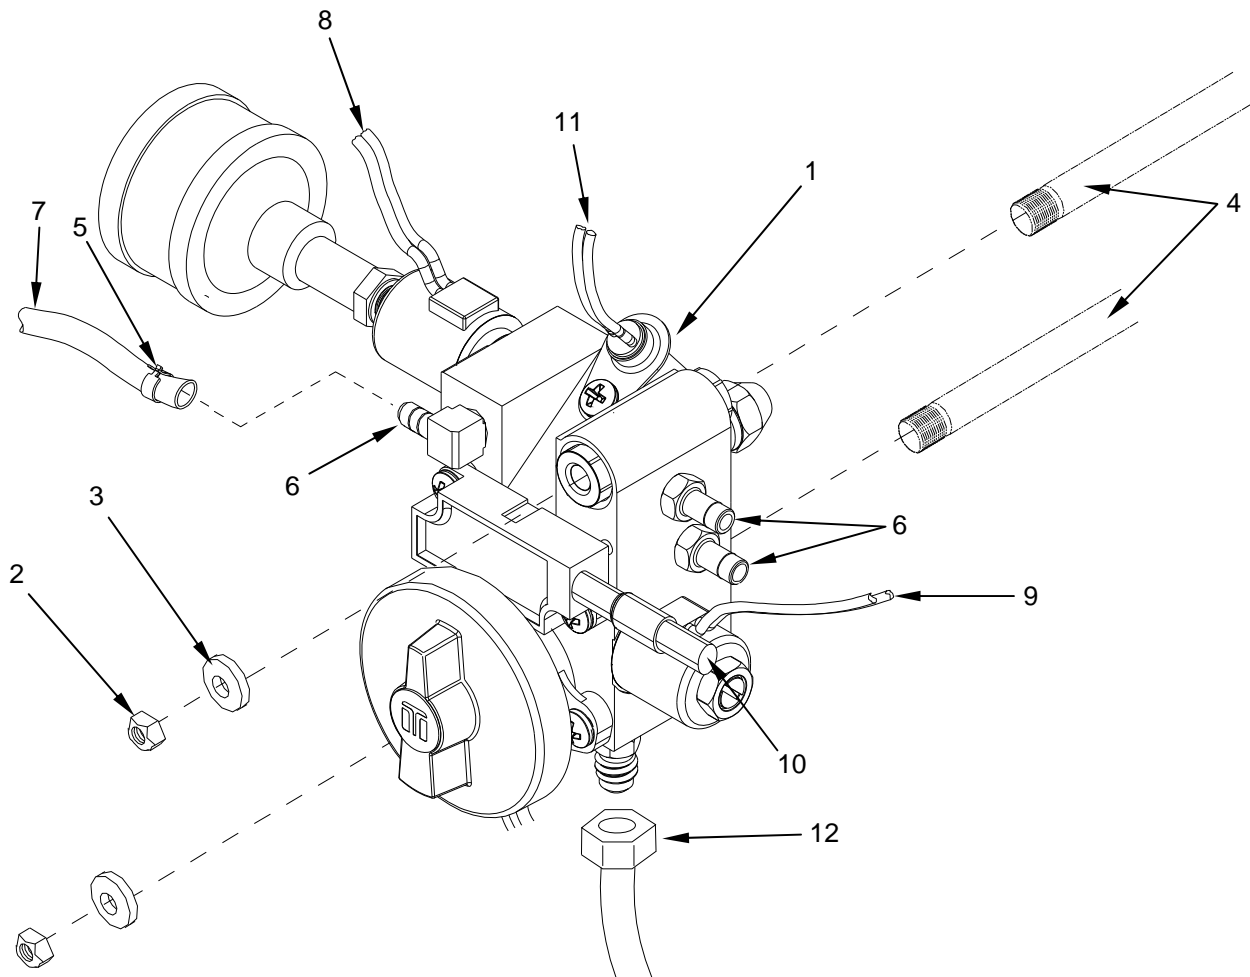

Figure 5. Remove/Install the Fuel Delivery Block Assembly from Burner Tube Mounting Studs.
- d. To remove fuel delivery block assembly (Figure 5, Item 1), remove two self-locking nuts and washers (Figure 5, Item 2 and Item 3) that secure the fuel delivery block assembly to the burner tube mounting shafts (Figure 5, Item 4).
- e. Slide the fuel delivery block assembly (Figure 5, Item 1) off the threaded studs of the burner tube mounting shafts (Figure 5, Item 4).
- f. Tag and remove the three air lines by squeezing the tabs on hose clamp (Figure 5, Item 5) with a pair of pliers and slide the clamp off the fuel delivery block fitting (Figure 5, Item 6) and onto the neoprene line (Figure 5, Item 7). It may be necessary to cut or replace the hose to remove it.
- g. Disconnect electrical connections for the air fill solenoid valve (Figure 5, Item 8), fuel solenoid valve (Figure 5, Item 9), flame sensor (Figure 5, Item 10) and igniter (Figure 5, Item 11).
- b. Reconnect the three air lines to the fuel delivery block fittings (Figure 5, Item 6) as tagged.
- d. Slide the fuel delivery block assembly (Figure 5, Item 1) onto the burner tube mounting shafts (Figure 5, Item 4).
- e. Install two self-locking nuts and washers (Figure 5, Item 2 and Item 3) to retain the fuel delivery block assembly (Figure 5, Item 1) to the burner tube mounting shafts (Figure 5, Item 4).
- f. Reconnect the fuel line (Figure 5, Item 12).